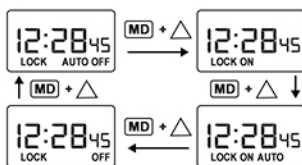

Figure13
- 4.3. After locking the switch, press "MD" and "+" at the same time to switch manual/automatic status. Continuously press them together, the screen will show "AUTO OFF", "ON", "ON AUTO" and "OFF" successively, see Figure 13. When the circuit shall be on and off temporarily in the process of operation, the combination buttons can be used to adjust the switch to ON and OFF; if the time switch shall work automatically according to the set time, the combination button shall be used to adjust the switch to "ON AUTO", then the time switch may work as set, so as to achieve automatic control.